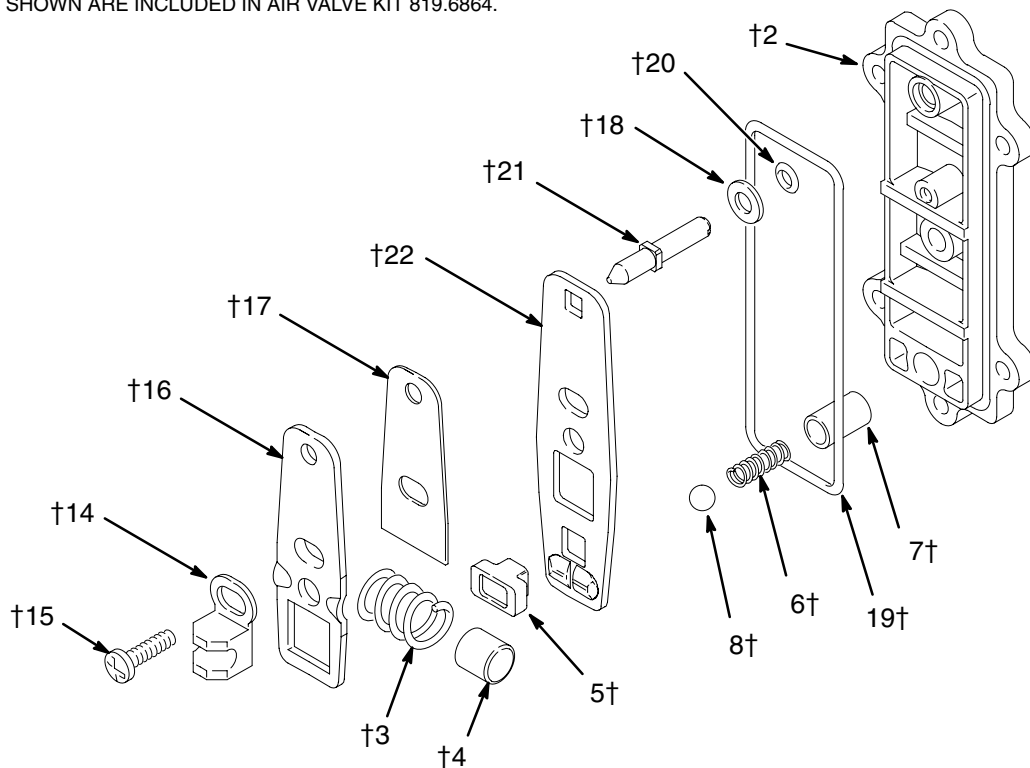

Fig. 9
3. Remove the screw (15) and shift saddle (14). See Fig. 9.
4. Disassemble the link assembly, consisting of the actuator link (16), spacer (17), detent link (22), spring (3), stop (4), and valve cup (5).
5. Remove the detent ball (8) and spring (6). The detent collar (7) is a press-fit and should not need removal; if it does require replacement, you should also replace the cover (2).
6. Remove the reset shaft (21), o-ring (20) and washer (18).